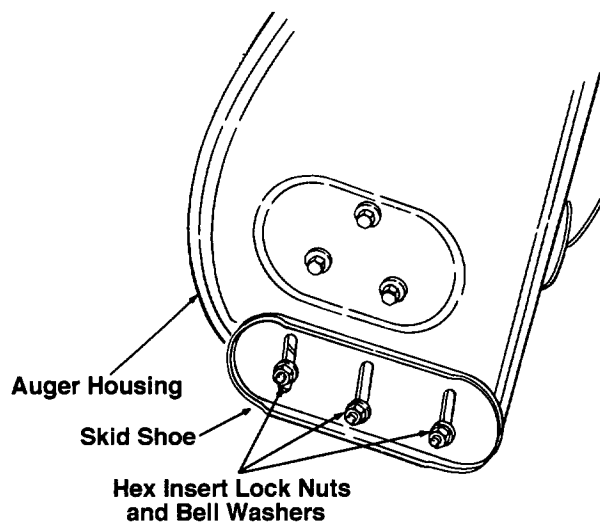

Figure 25
- Move the skid shoes up or down to the desired position and securely tighten the lock nuts. Adjust both skid shoes to the same height. Refer to Figure 25.